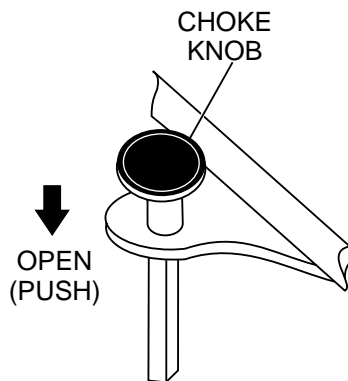

Figure 14. Choke Knob (Open Position)
7. Once the engine has started and been warmed, return the choke knob (Figure 14) to the **OPEN** position.